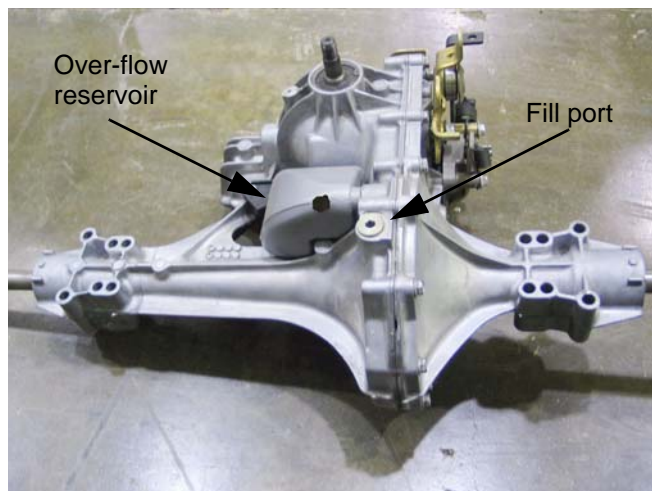

Figure 28.7
- 28.7. Fill through the port at the top of the transaxle. Fluid will spill into the plastic over-flow reservoir as the fluid capacity is reached. See Figure 28.7.